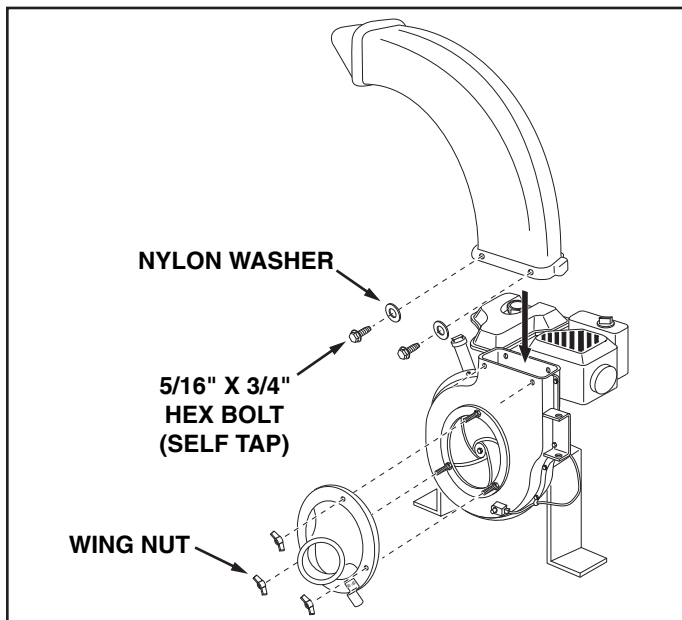

FIGURE 13
22. Attach the plastic elbow to the top of the engine housing using four 5/16" x 3/4" hex bolts (self tapping) and nylon washers. See figure 13.
23. Connect the hose adapter to the engine housing by fastening three wing nuts to the pre-assembled bolts in the engine housing. See figure 13.